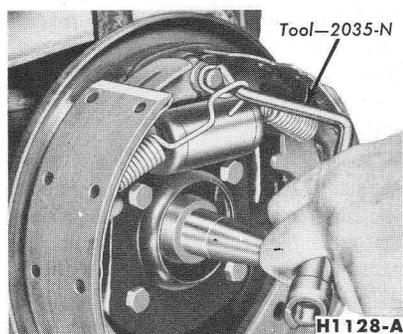

FIG. 7—Retracting Spring Installation
5. Place the anchor pin plate over the anchor pin. Install the primary shoe retracting spring followed by the secondary shoe retracting spring (Fig. 7).